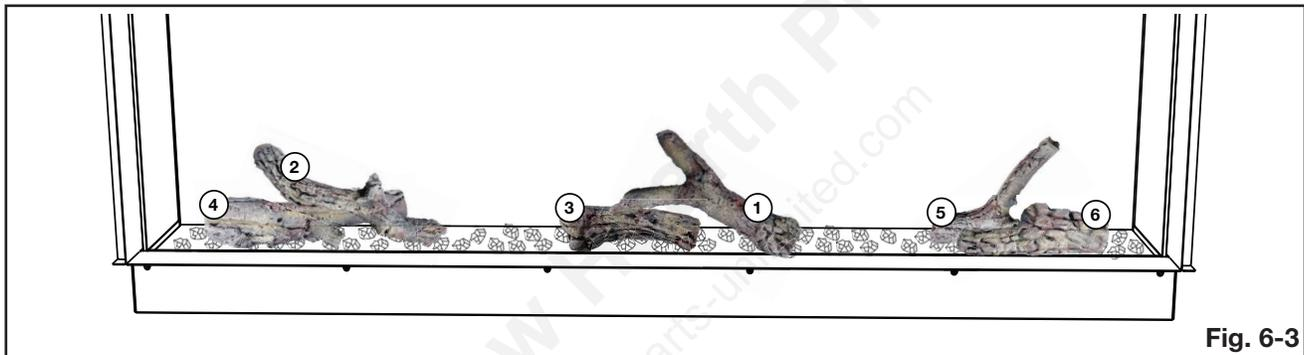

Fig. 6-3
3. Place the driftwood logs on top of the small crystals (see **Fig. 6-3 and 6-4** for recommended log placement)